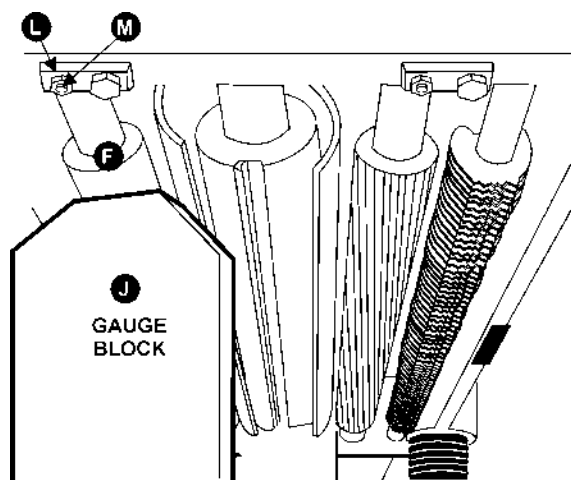

FIGURE 24
4. Move the gauge block (J) under one end of the outfeed roller (F), Figure 24. The bottom of the outfeed roller should just touch the top of the gauge block. If an adjustment to the outfeed roller is necessary, loosen the lock nut (L) and turn screw (M) until the outfeed roller just touches the gauge block. Then tighten lock nut (L).